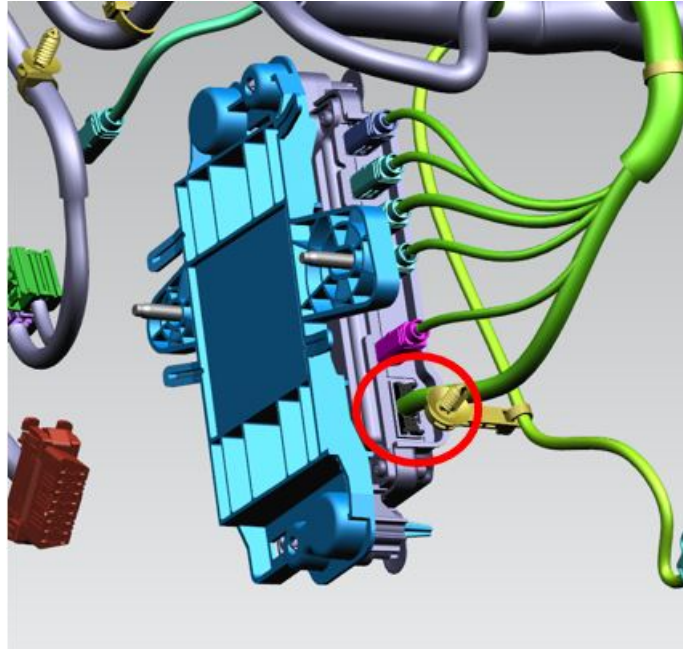

Fig. 5
10. Check if D2999A (black) connector is properly connected to the CVPM. This connector is located next to D2999F (pink) coax connector (Fig. 5) .